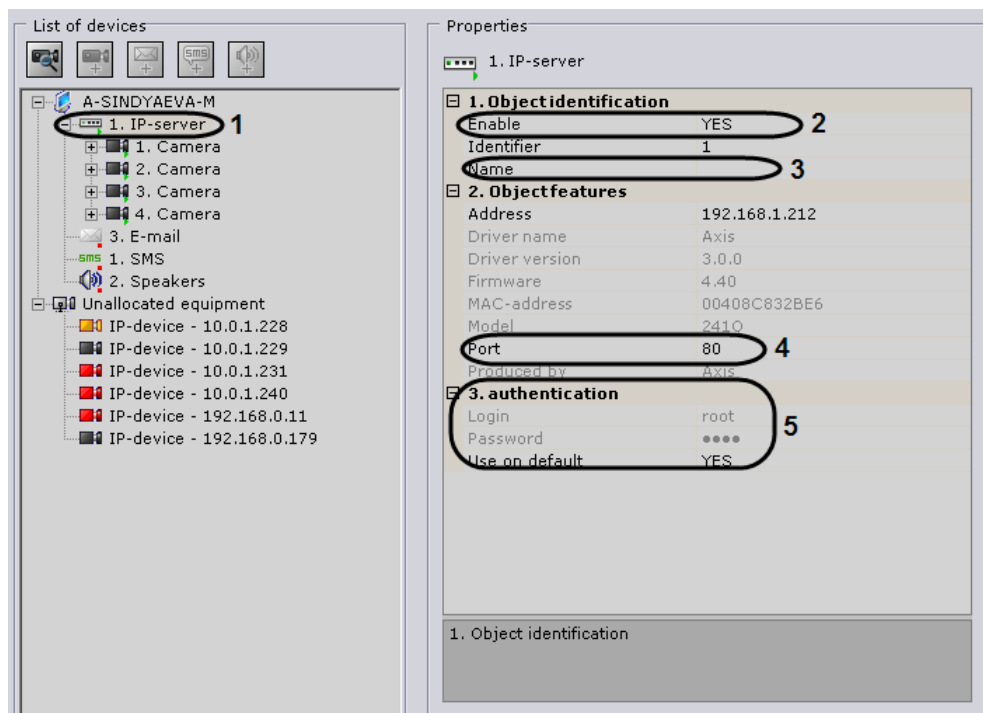

Fig. 6.4—13 Configuring an IP server object
2. Select **Yes** from the list in the **Enable** field to enable the object (Fig. 6.4—13, 2).
3. Enter the name of the IP server into the **Name** field (Fig. 6.4—13, 3).